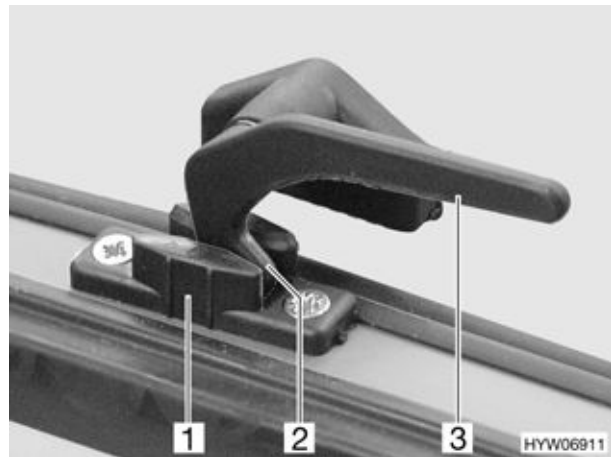

Fig. 38 Hinged window, window handle in the "continuous ventilation" position (variant 1)
- Continuous ventilation (Fig. 38)
- Open window handle (Fig. 38,3) of the hinged window.
- Return window handle into its original position. The locking catch (Fig. 38,2) has to be moved into the recess of window catch (Fig. 38,1).